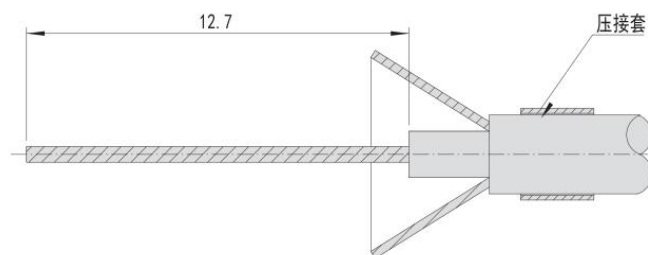

Figure 1.9
② Slide the sheath back onto the cable sleeve as shown in Figure 1.9, open the shielding layer and strip off the cable medium